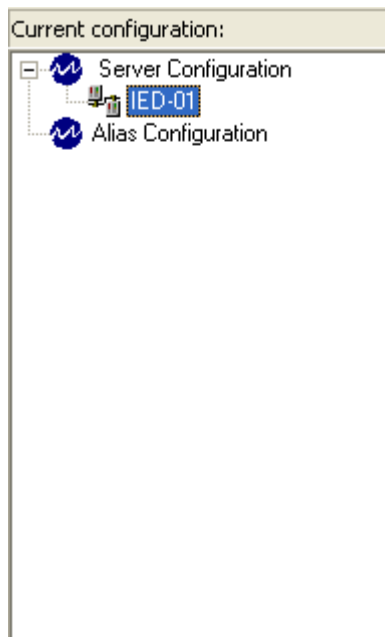

Figure 17 - New IEC 61850 IED Device Link Object
8. Click on the **OK** button. The object is created and appears as a child of the **Server Configuration** item as shown in Figure 17.